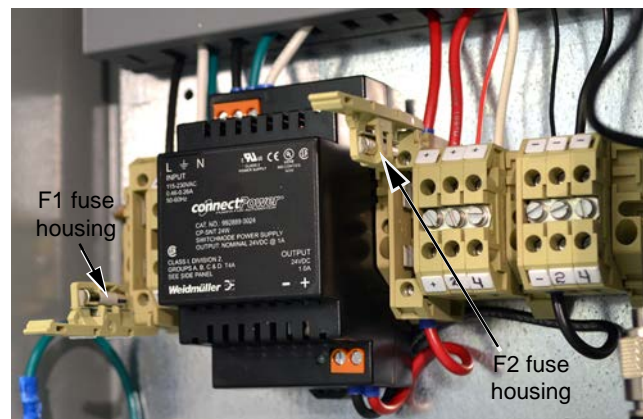

Figure 4.5—F1 and F2 fuse housing, opened
1. Open the door of the WiFi box and open the F1 and F2 fuse housings on the power block (Figure 4.5). Fuse F1 opens from the top. Fuse F2 opens from the bottom.